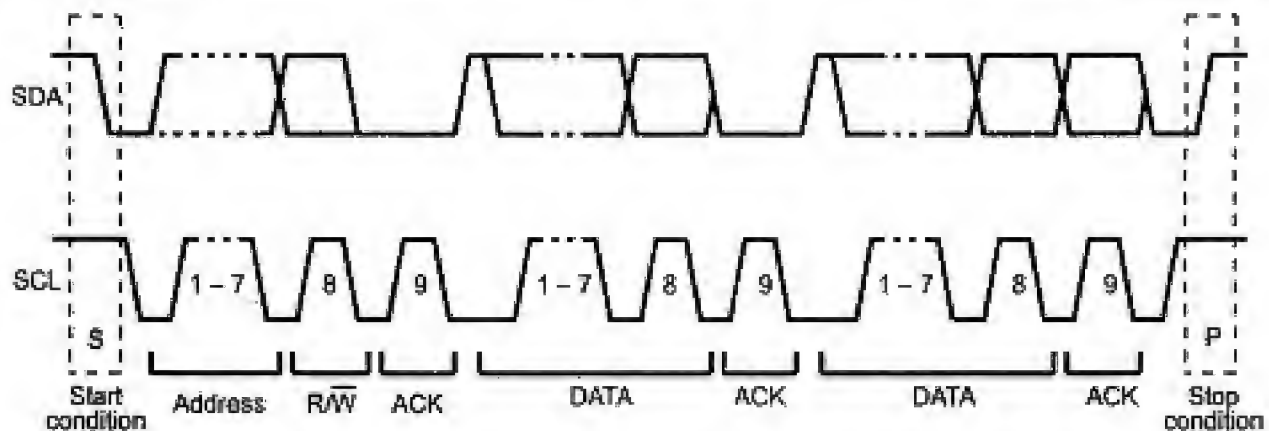

Fig. 14.18 A complete data transfer using 7-bit address format
Fig. 14.18 shows complete data transfer using 7-bit address format. As shown in Fig. 14.18, after the START condition (S), a slave address is sent. This address is 7 bits long followed by an eighth bit which is a data direction bit (R/W) - a 'zero' indicates a transmission (WRITE), a 'one' indicates a request for data (READ). A data transfer is always terminated by a STOP condition (P) generated by the master. However, if a master still wishes to communicate on the bus, it can generate a repeated START condition (Sr) and address another slave without first generating a STOP condition. When an address is sent, each device in a system compares the first seven bits after the START condition with its address. If they match, the device considers itself addressed by the master as a slave-receiver or slave-transmitter, depending on the R/W bit. Various combinations of read/write formats are then possible within such a transfer.
1. Master-transmitter transmits to slave-receiver. The transfer direction is not changed. This is shown in Fig. 14.18